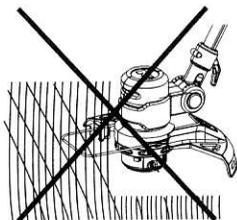
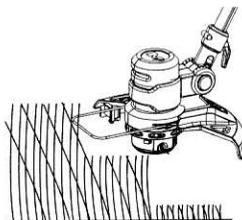

Fig. 16
Fig. 17
7. Ensure the cutting device remains clean and free from off-cuts that may cause it to jam. Check regularly. Release the on/off switch (2) and disconnect the product from the power supply before checking.
8. Trim longer grass in stages; do not cut long grass in one cut (Fig. 16). For the best results, cut longer grass in steps (Fig. 17).